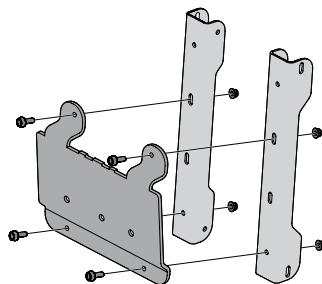

Figure 3
1. Place the two strut brackets (789-04278) facedown on a stable work surface, as shown in Figure 3.
2. Align mounting plate (689-02559) to strut brackets with flanges curving inward and solid flange lined up with smaller holes along the bottom of strut brackets. See Figure 3.
3. Secure mounting plate and strut brackets with four hex head screws (710-1238) and four lock nuts (712-04063) from hardware pack 689-02619. See Figure 3.